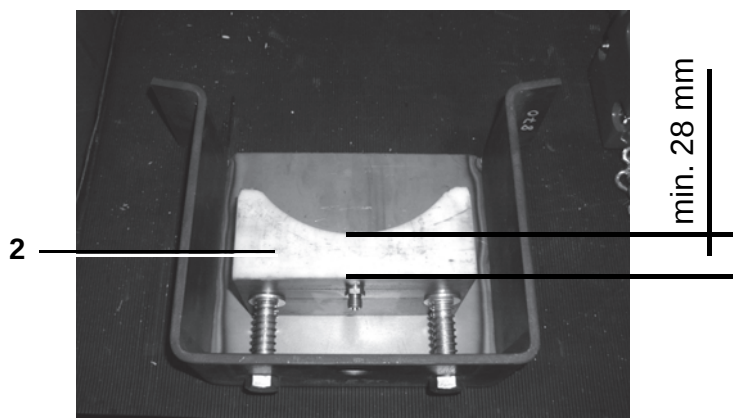

Fig. 35 Plastic sliding wear pad of slewing ring lubrication
- Check the plastic sliding wear pad (2) in Fig. 35 in the lubrication device (1) in Fig. 35 for wear every three months.
- Replace the plastic sliding wear pad (2) in Fig. 35 as soon as the wear limit is reached.
Before checking the plastic sliding wear pad (2) in Fig. 35:
1	Remove the lubrication device (1) in Fig. 35.
2	Check the plastic sliding wear pad (2) in Fig. 35 for wear (min. 28 mm).